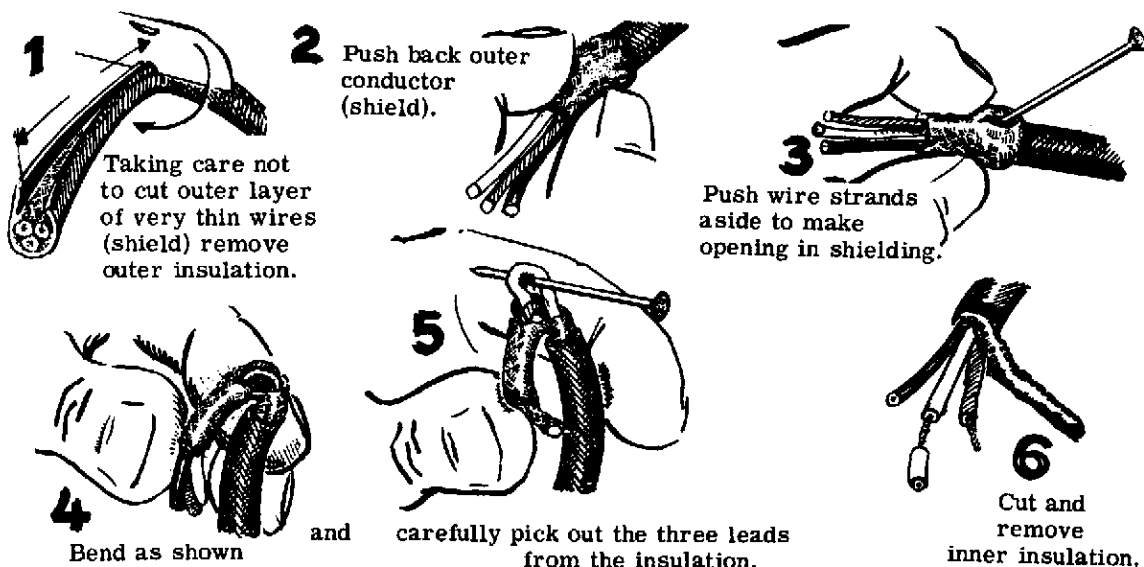

Figure 3
Refer to Figure 3.
- () On both ends of the cable, break the wires out of the side of the shield braid, as shown in Figure 3.